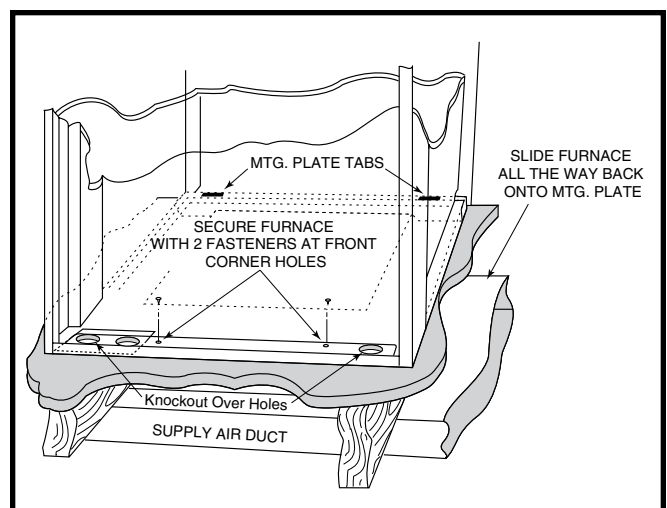
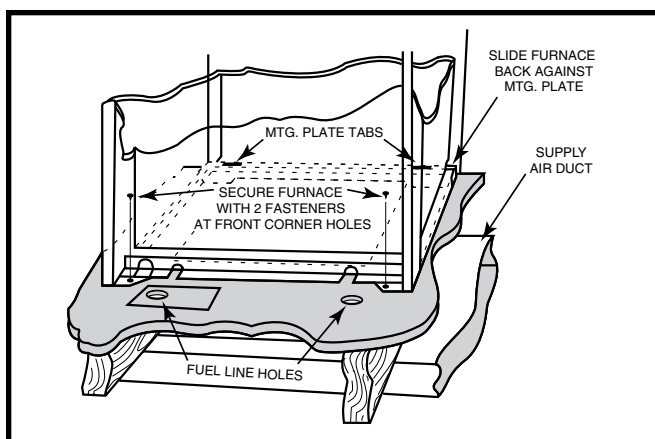

Figure 14. "A" & "B" Cabinet Furnaces
Figure 15. "A" Cabinet Furnace on Coil Cabinet
Sides and back of the furnace may be enclosed by wall framing such as in a closet or alcove. The dimensions of the room or alcove must be able to accommodate the overall size of the furnace shown in Figure 4 (page 6) and the installation clearances outlined on page 5. The furnace shall be appropriately connected to the supply and return air distribution system as shown in Figure 14 (page 10) & Figure 15 (page 11).
4. Secure front with one (1) fastener at each corner. See Figure 14 & Figure 15.